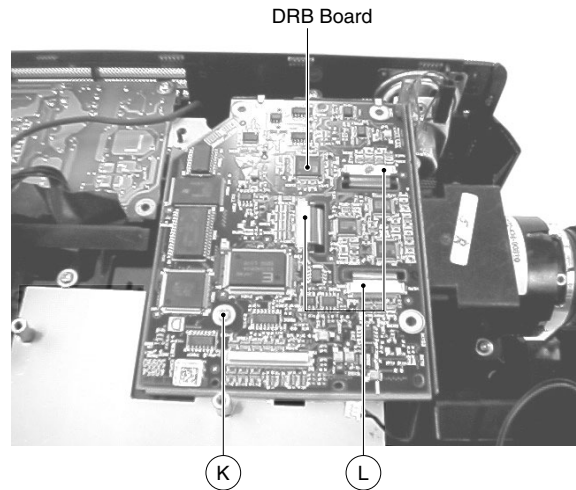

Fig. 8 CL 266450004_052.eps 240402
2. Remove screw “K” and connectors “L” (Fig. 8). Nor the DRB (Drive Boards) can be removed.